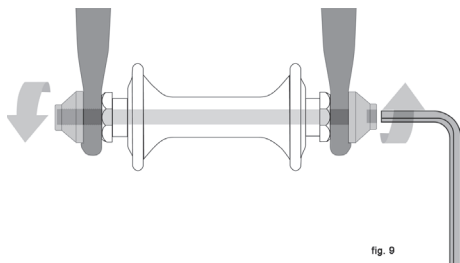

fig. 9
- A hollow axle with a shaft ("skewer") running through it which has a nut on one end and a fitting for a hex key, lock lever or other tightening device on the other (through bolt, fig. 9)